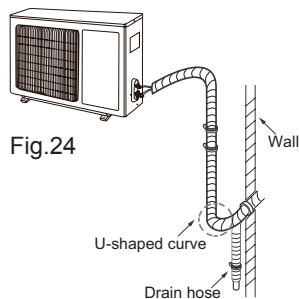

Fig.24
- (1) The pipes should be placed along the wall, bent reasonably and hidden possibly. Min. semidiameter of bending the pipe is 3 15/16inch.
- (2) If the outdoor unit is higher than the wall hole, you must set a U-shaped curve in the pipe before pipe goes into the room.(As show in Fig.24)